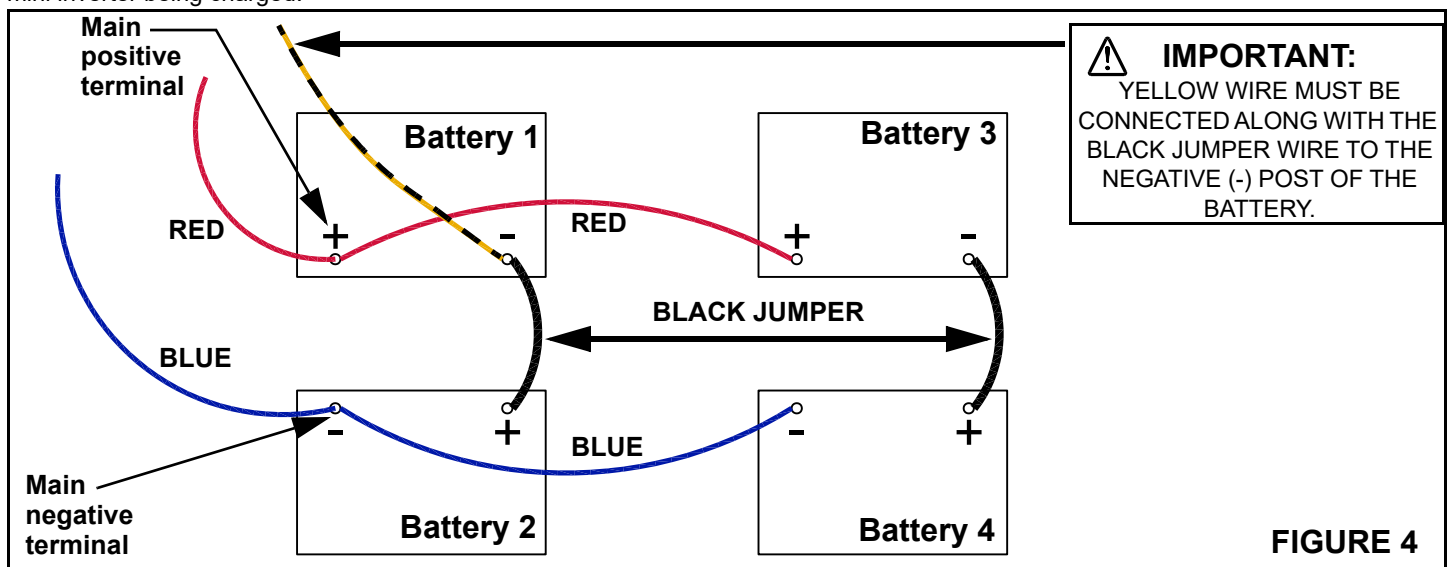

FIGURE 4
STEP 5: CONNECT BATTERIES (SEE FIGURE 4)
- Tighten all bolts to a torque of **78 lbf-in ± 4 lbf-in** (figure 4).